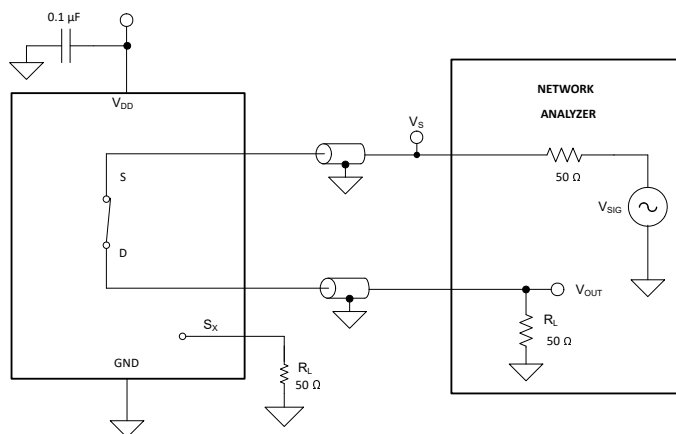

**Figure 7-10. Channel-to-Channel Crosstalk Measurement Setup**
Crosstalk is defined as the ratio of the signal at the drain pin (D) of a different channel, when a signal is applied at the source pin (Sx) of an on-channel. Figure 7-10 shows the setup used to measure, and the equation used to compute crosstalk.